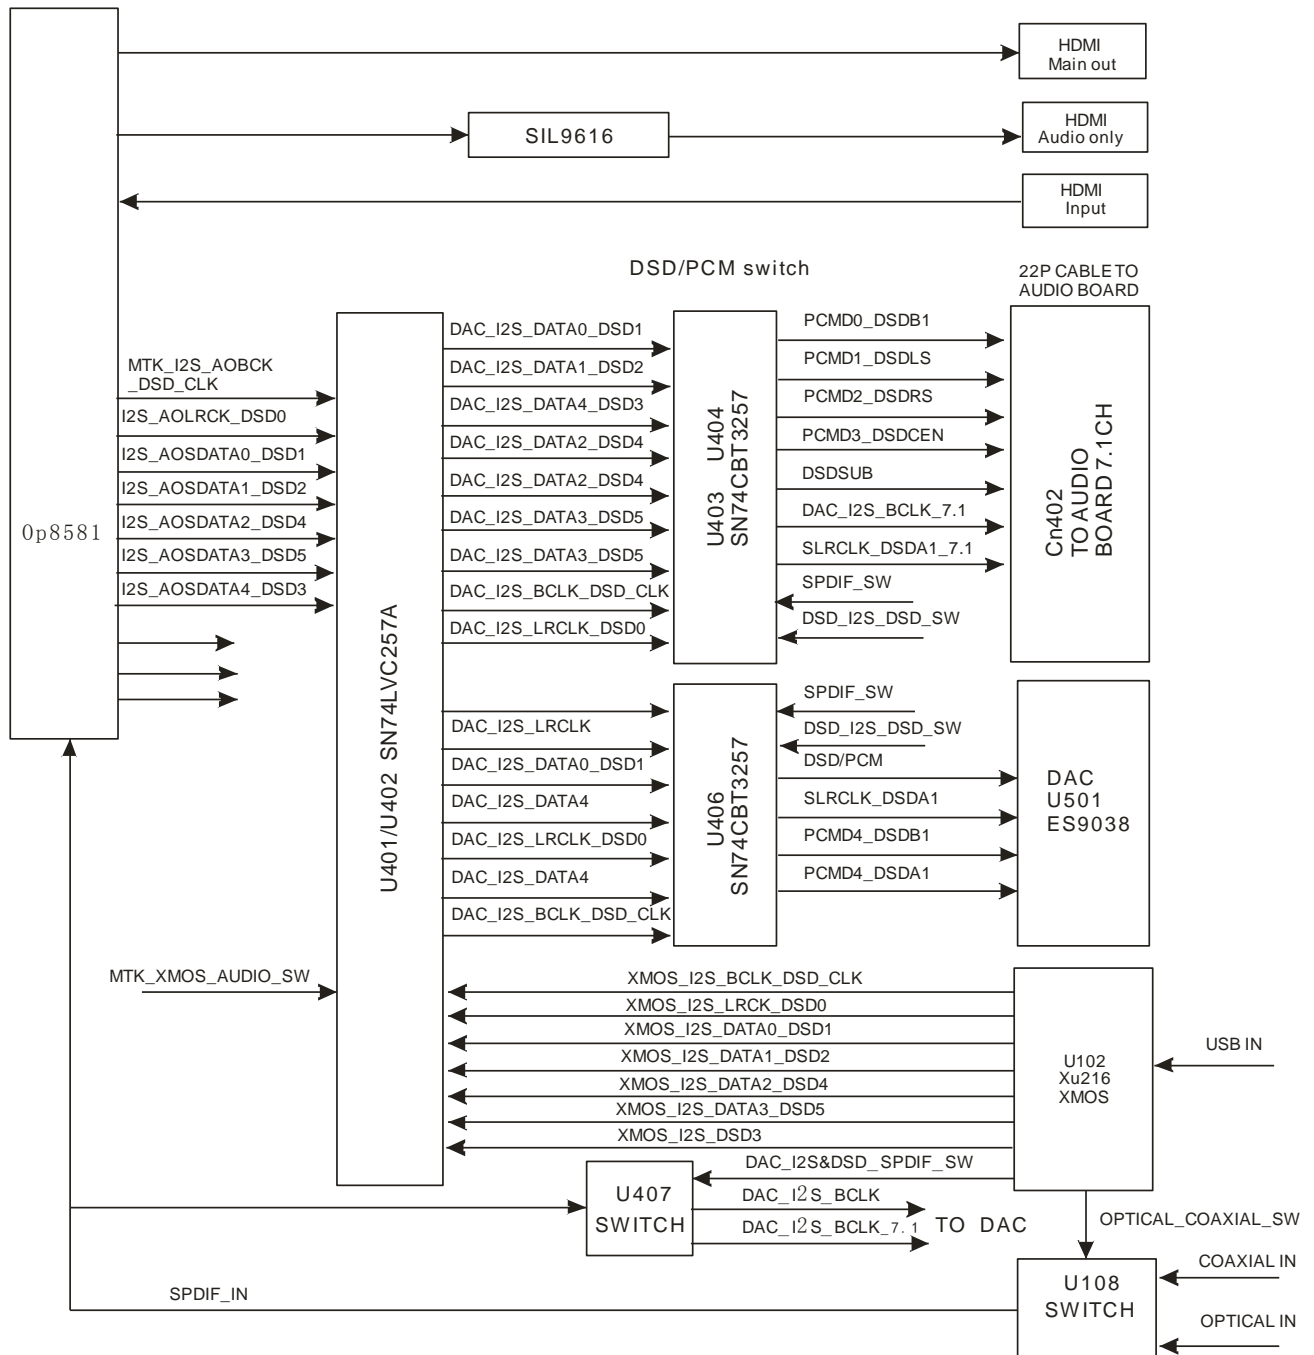

Figure 3.3.1.1 Block diagram of audio signal
3.3.1 Block diagram of audio signal is shown in figure 3.3.1.1: